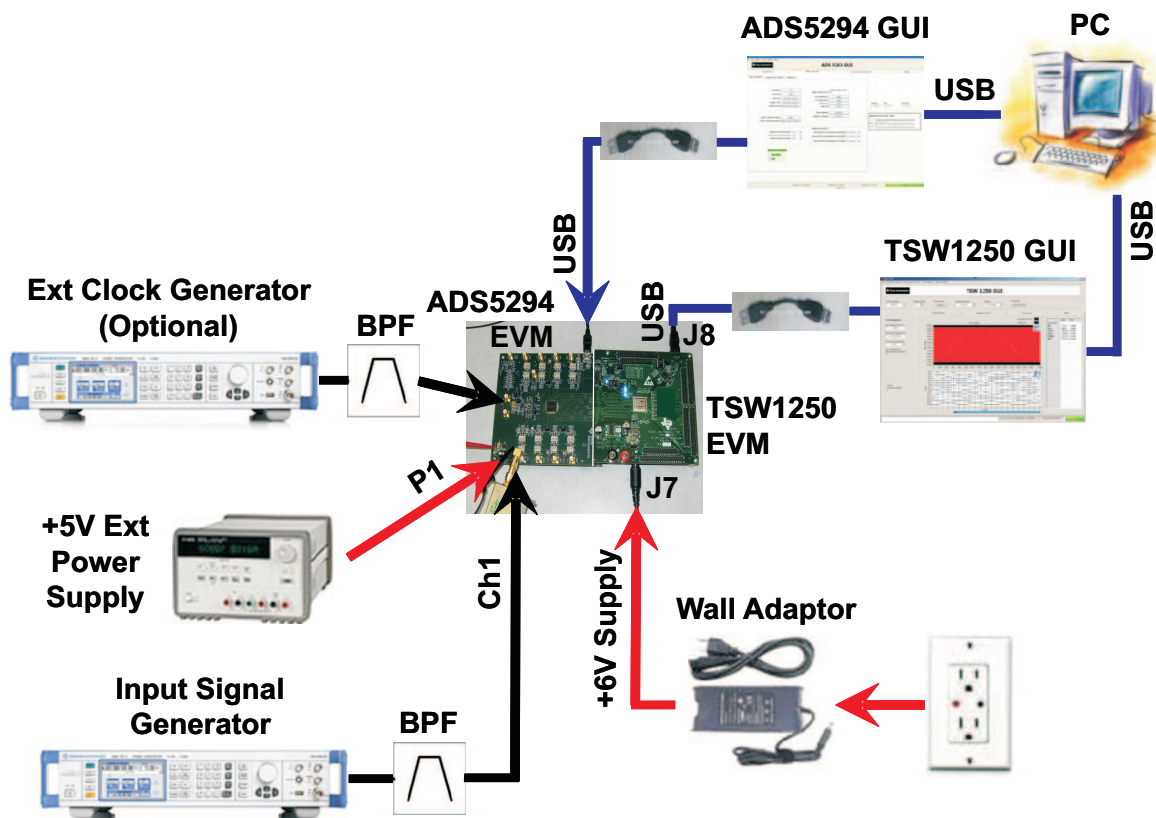

Figure 1. Evaluation Setup
Figure 1 shows an overview of the evaluation setup that includes the ADS5294EVM evaluation module (EVM), TSW1250EVM, external equipment, personal computer (PC), and software requirements.